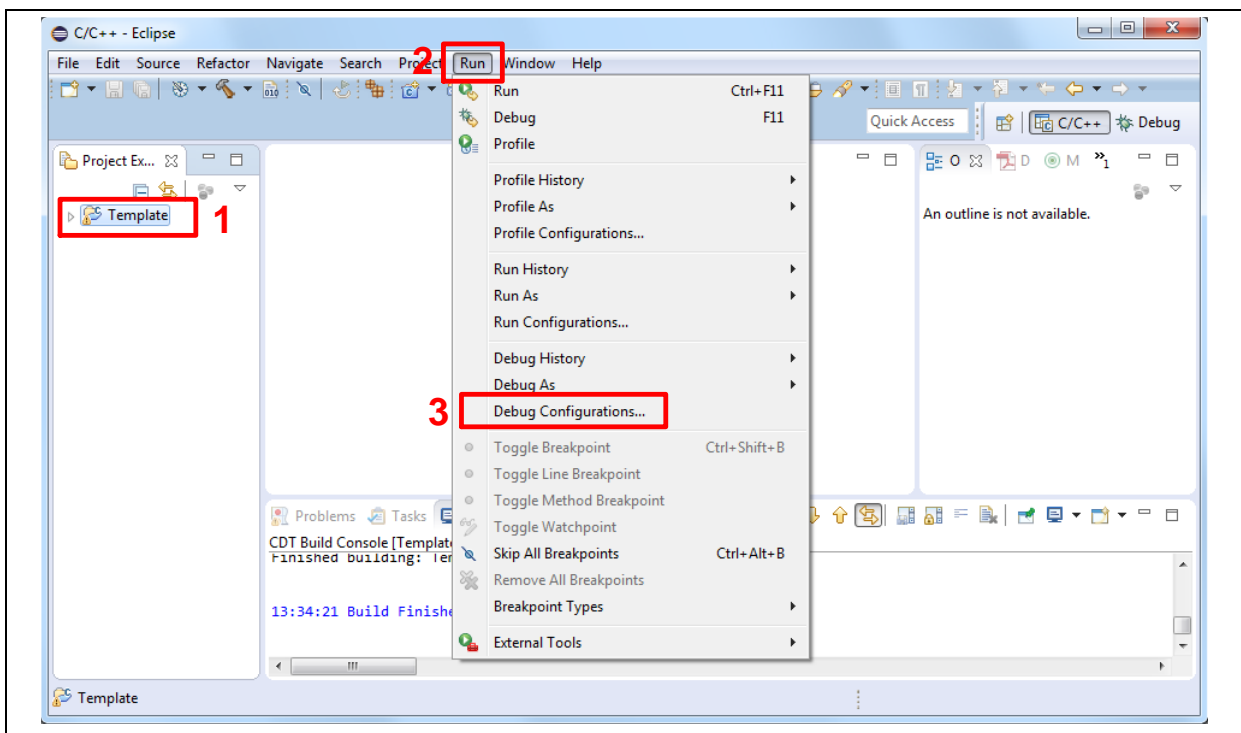
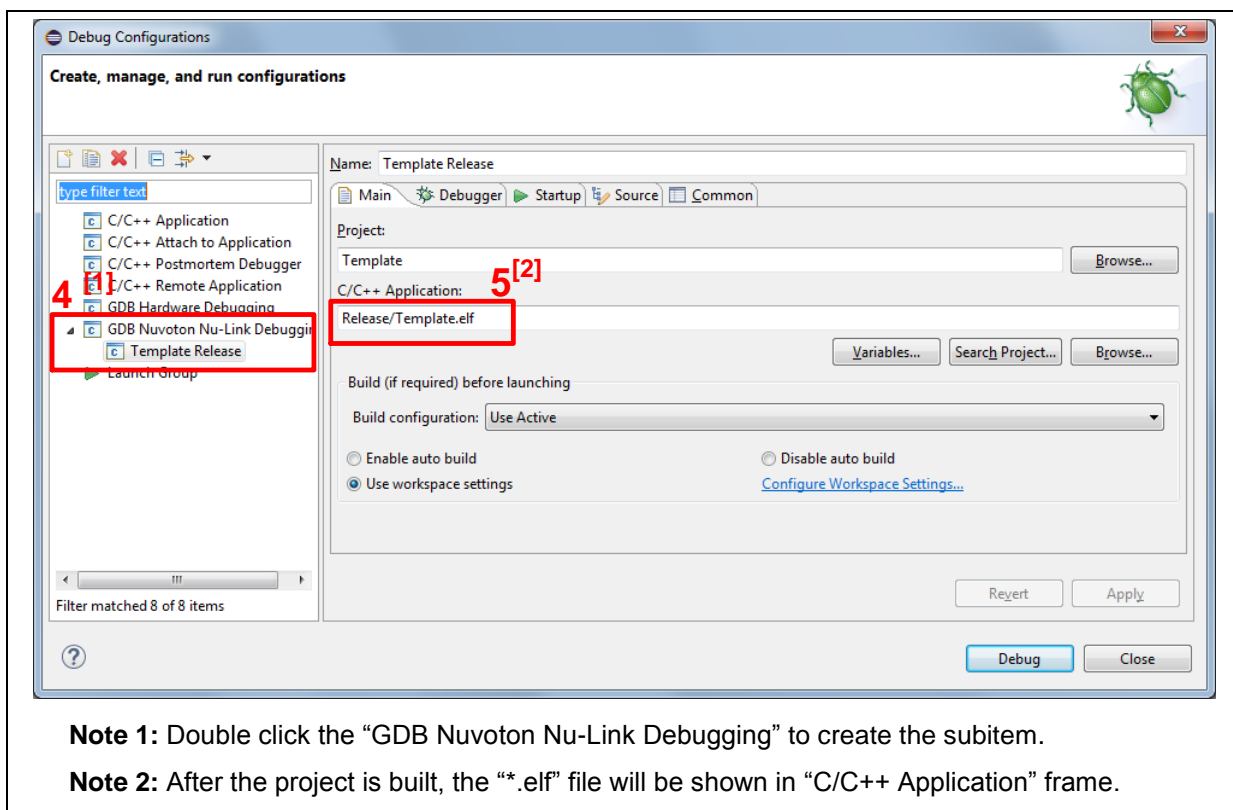
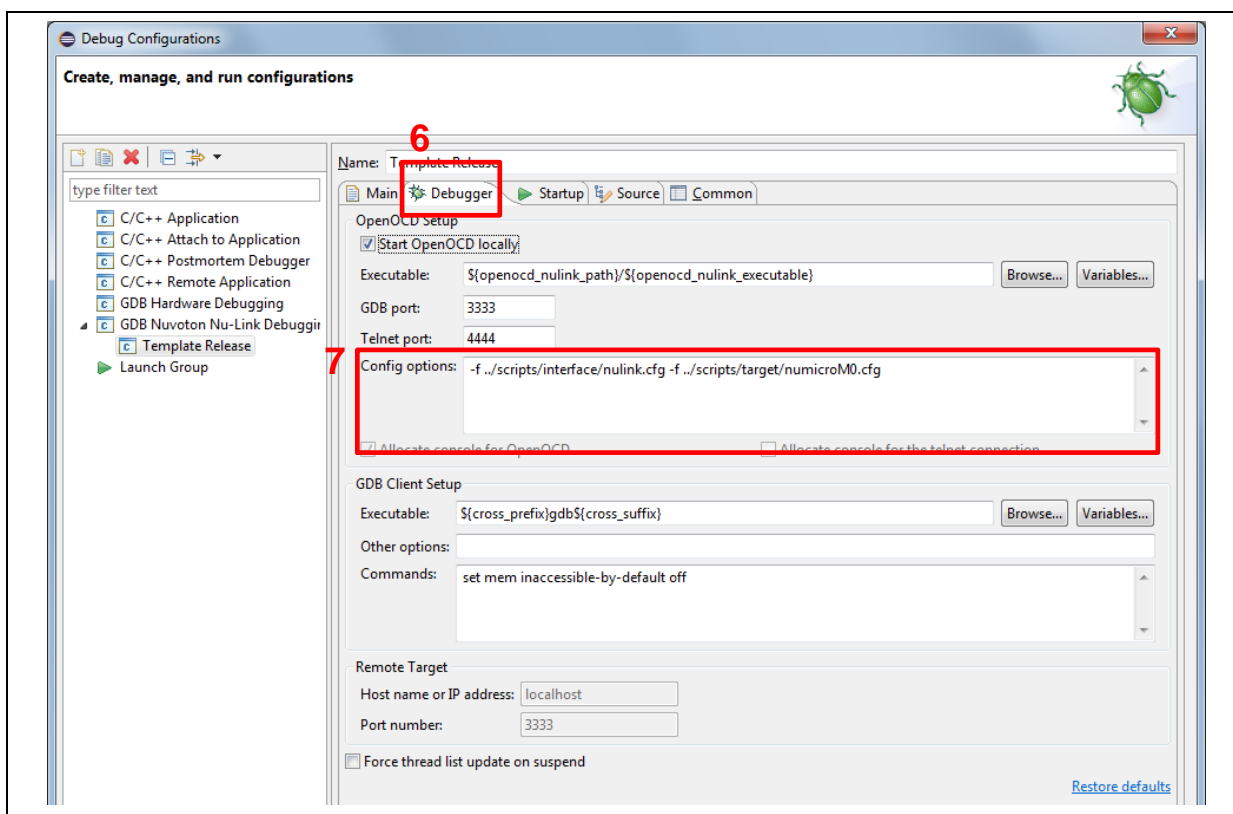
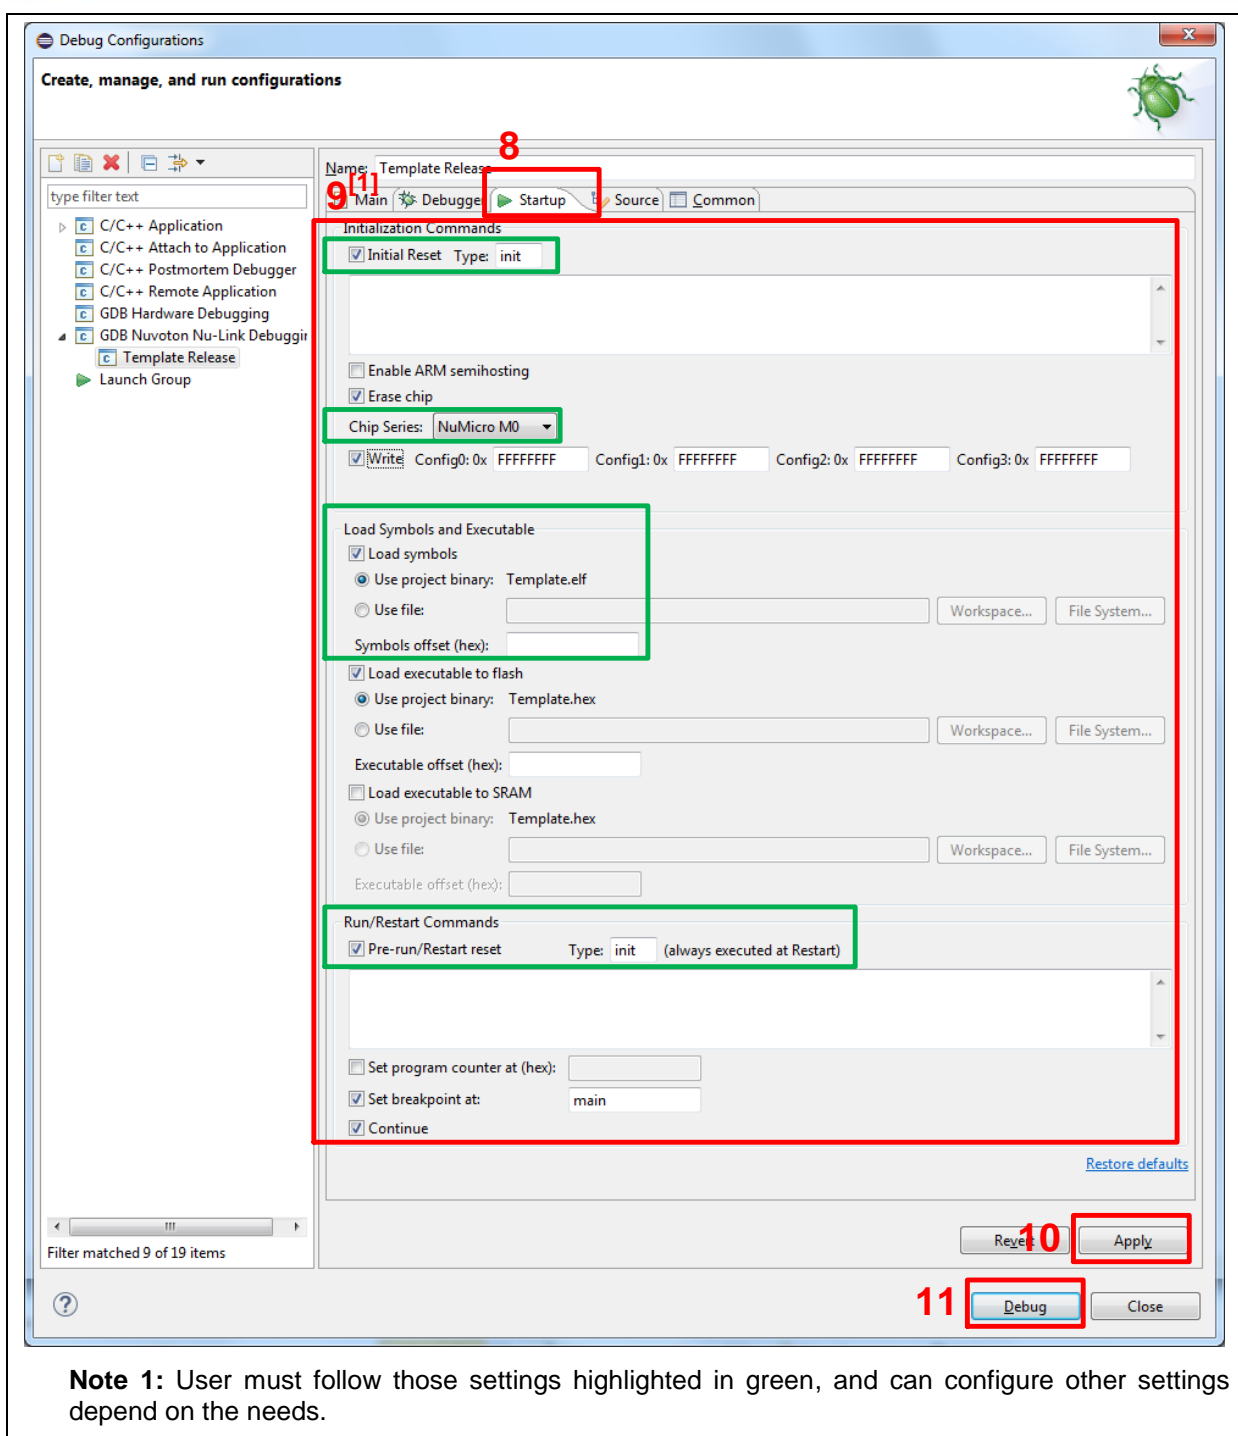

Figure 4-24 Open Debug Configuration
Figure 4-25 Main Tab Configuration
Figure 4-26 Debugger Tab Configuration
Figure 4-27 Startup Tab Configuration
5. After the project is built, click the “Template” project and set the “Debug Configuration” as shown in Figure 4-24. Follow the settings presented in Figure 4-25, Figure 4-26 and Figure 4-27 to enter debug mode.